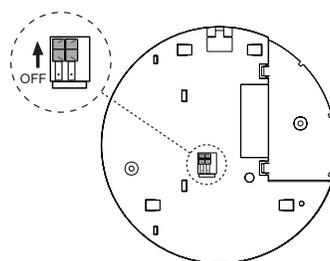

Figure 10: Switching off the battery switch on Ei405TY only
on Model Ei405TY by sliding the switches on the base of the unit to the off position (see figure 10). With the Ei405 model just disconnect the battery.
- § On the Ei405TY model ensure the unit is pushed fully home on the mounting plate, as this connects the battery. If necessary, the unit should be removed from the mounting plate and the battery switch checked to see it is in the ON position (see figure 7 and figure 10).
If your Smoke Alarm fails to work after you have read the sections on Installing your Smoke Alarms, Testing and Maintaining your Smoke Alarm and Troubleshooting your Smoke Alarms, then contact Customer Assistance at the nearest address given at the end of this leaflet. If it needs to be returned for repair or replacement put it in a padded box with the battery disconnected (Ei405 only). The Ei405TY must be removed from the mounting plate and the switches on the base of the unit moved to the off position — see figure 10. Send it to Customer Assistance and Information at the nearest address given on the Smoke Alarm or in this leaflet. State the nature of the fault, where the Smoke Alarm was purchased and the date of purchase.